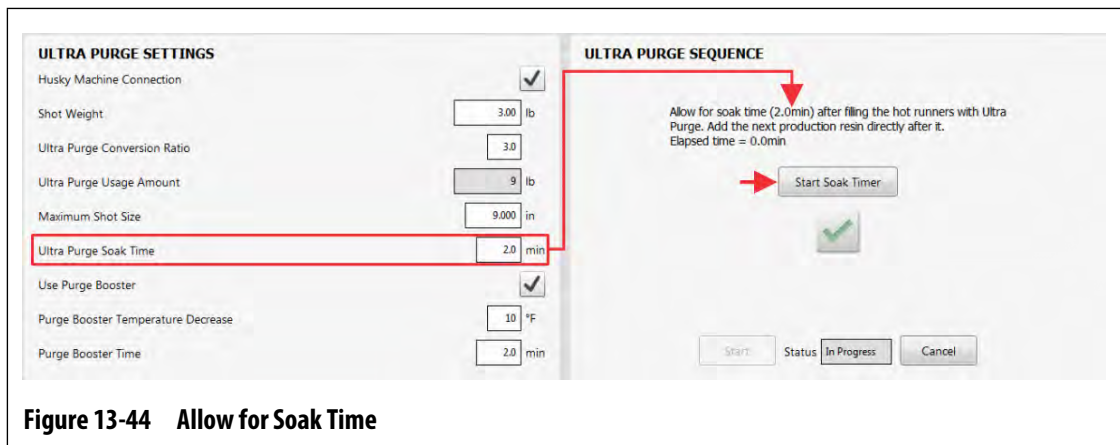

Figure 13-44 Allow for Soak Time
- Touch the **Start Soak Timer** button and let the soak timer complete (Figure 13-44).